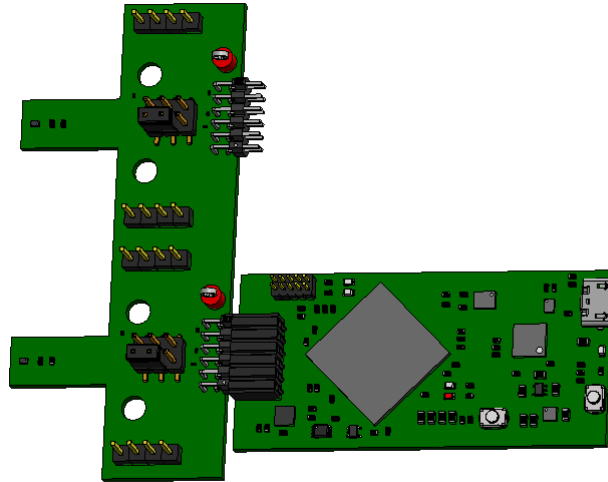
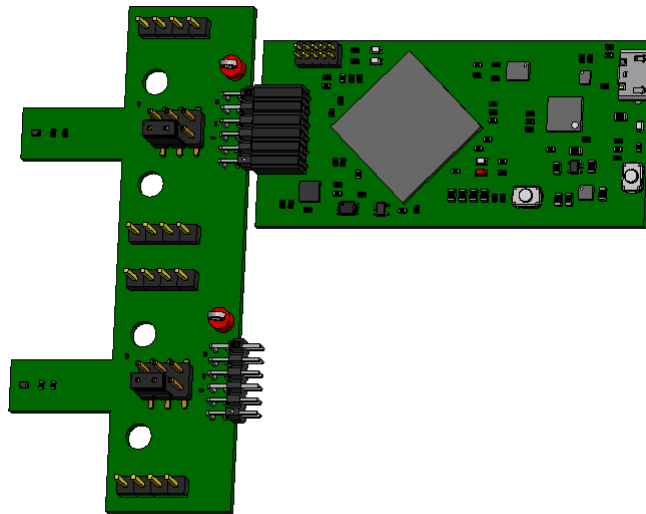

Figure 3-2. Sensor Control Board Connected to A1 Part of EVM
Figure 3-3. Sensor Control Board Connected to A2 Part of EVM
3. Attach the EVM to the Sensor Control Board (SCB). To evaluate the TMAG3001A1 on the EVM, attach header J1 of the Sensor Controller board to header J1_A1 of the EVM (see Figure 3-2). To evaluate the TMAG3001A2 on the EVM, attach header J1 of the Sensor Controller board to header J1_A2 of the EVM (see Figure 3-3).
Figure 3-2 and Figure 3-3 show how to connect the EVM to the included SCB.